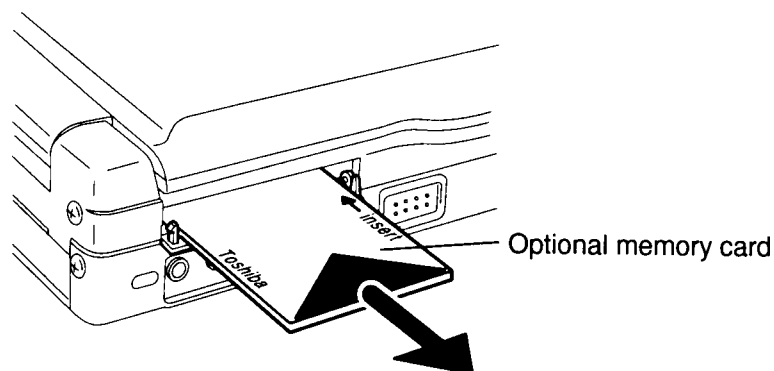

Figure 4-3 Removing the optional memory card
5. Grasp the **optional memory card** and pull it completely out (Figure 4-3).
To install an optional memory card in the T4850CT, follow the steps below and refer to Figures 4-3 and 4-2.
1. The top of the **optional memory card** is marked with the word “insert” and an arrow pointing toward the connecting edge. Turn the memory card so that it is facing up and carefully insert the connecting edge (arrow first) into the slot. Push gently to ensure a firm connection (Figure 4-3).